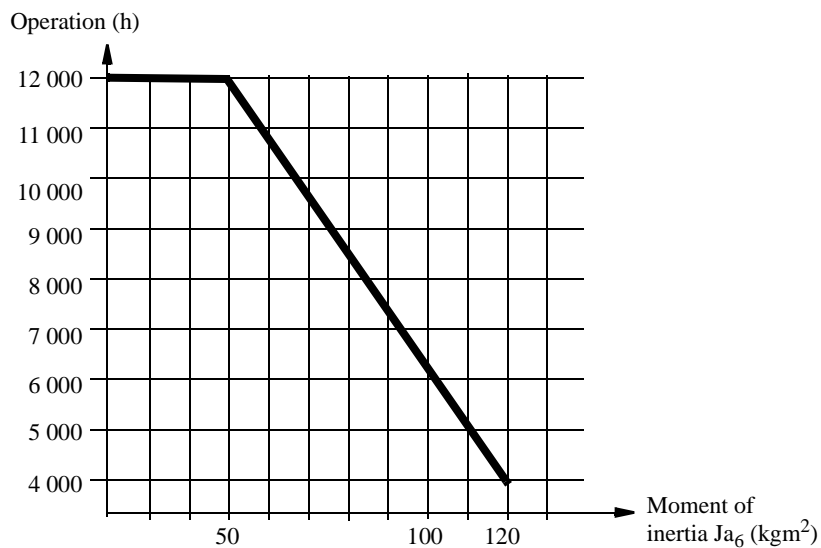

Figure 2 Recommended interval for changing grease on axis 6
5. For press-tending (refers to grease changing and operating life for gearbox axis 6) and heavy duty operation, axis 1 (option 5x is installed) see Figure 2 and Figure 3.